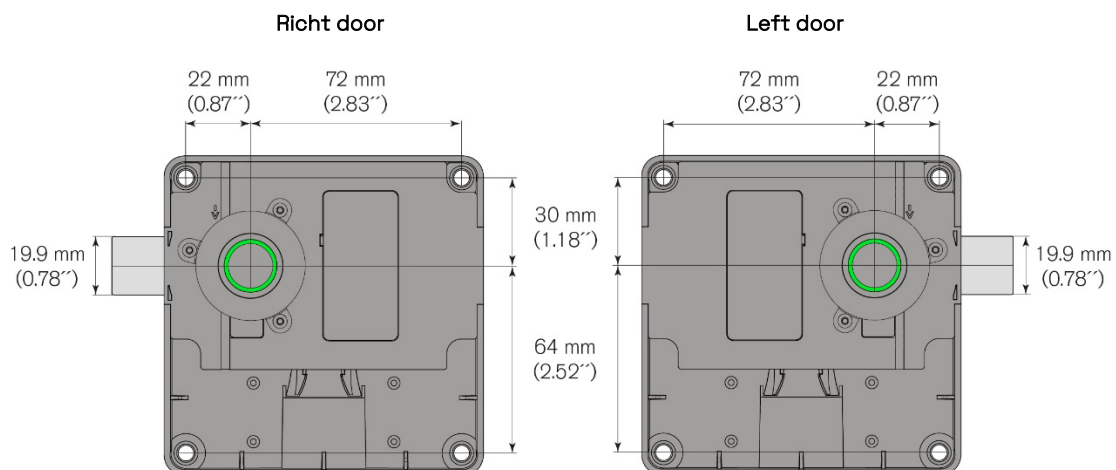
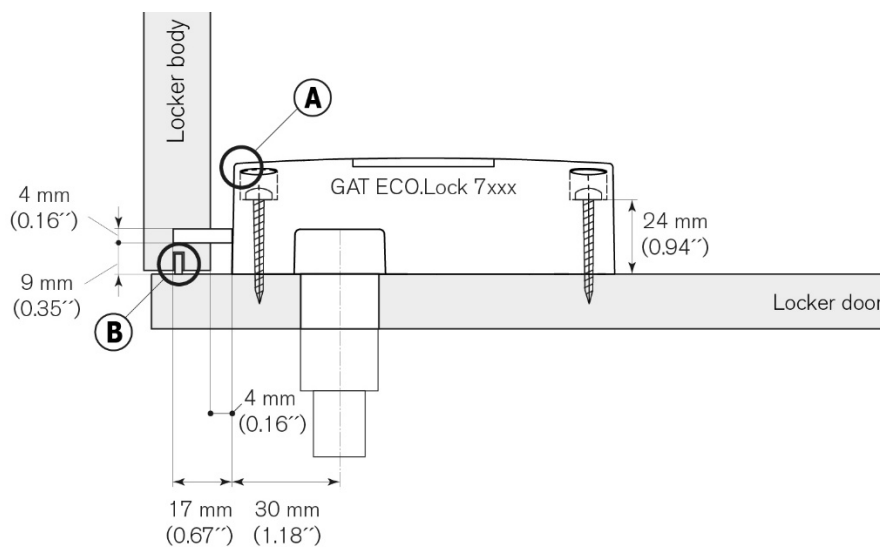
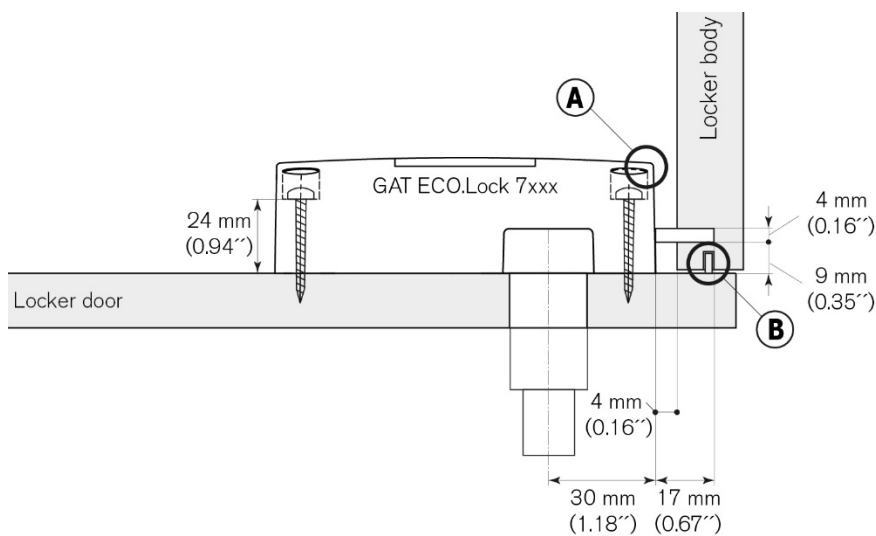
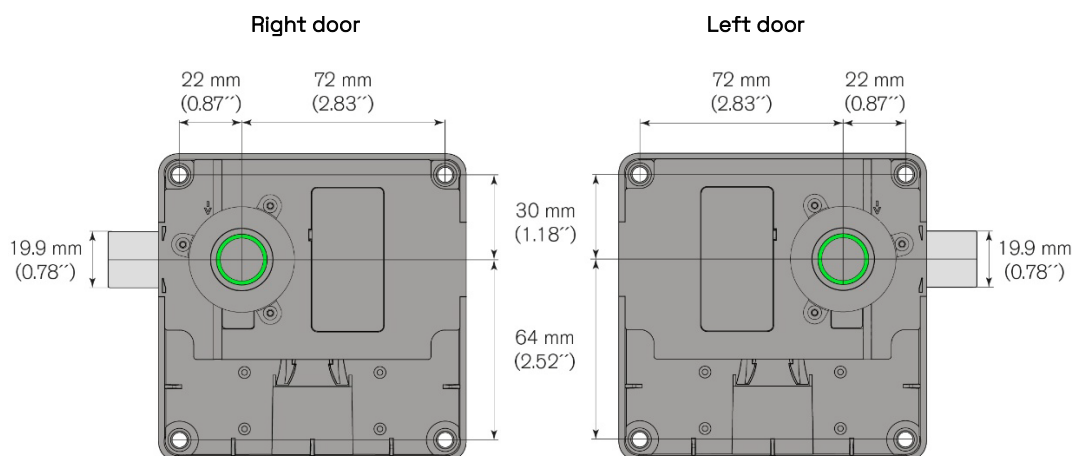

Fig. 3.5 – Position of the button drill hole for non-metallic doors
Fig. 3.6 – Installation measurements for right-hinged doors
Fig. 3.7 – Installation measurements for left-hinged doors
Fig. 3.9 – Position of the button drill hole for metallic doors
- ▶ Drill 1 hole into the locker door for the lock button. Position the button hole according to the measurements in Figure 3.5 and Figure 3.6 (for right-hinged doors) or Figure 3.7 (for left-hinged doors).
- ▶ Mark out 4 mounting holes on the inside of the locker door for the lock housing. Position the holes according to the measurements in Figure 3.5 and Figure 3.6 (for right-hinged doors) or Figure 3.7 (for left-hinged doors).
When the GAT ECO.Lock is mounted on a single-wall metallic door, it is recommended to install the lock a corresponding distance away from the locker door, e.g. using a mounting bracket, as shown below in Figure 3.9. This installation method allows the lock to be mounted on the inside of the locker wall without the need to drill through the outside of the locker door.
- ▶ Mark out and drill 1 hole into the locker door for the lock button. Position the button hole according to the measurements in figure 3.9 and figure 3.6 (for right-hinged doors) or figure 3.7 (for left-hinged doors).
- ▶ Mark out 4 mounting holes on the inside of the locker door for the lock housing. Position the holes according to the measurements in figure 3.9 and figure 3.6 (for right-hinged doors) or figure 3.7 (for left-hinged doors).